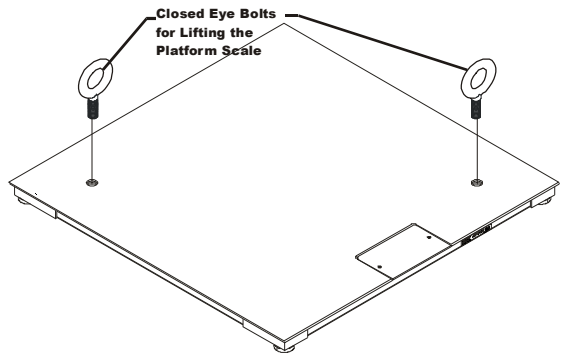

FIG. 1 INSTALLING THE CLOSED EYE-BOLTS INTO THE TOP PLATE
Step 2. Screw 2 closed eye bolts into the threaded holes on the top plate of the scale. (See Fig. 1)